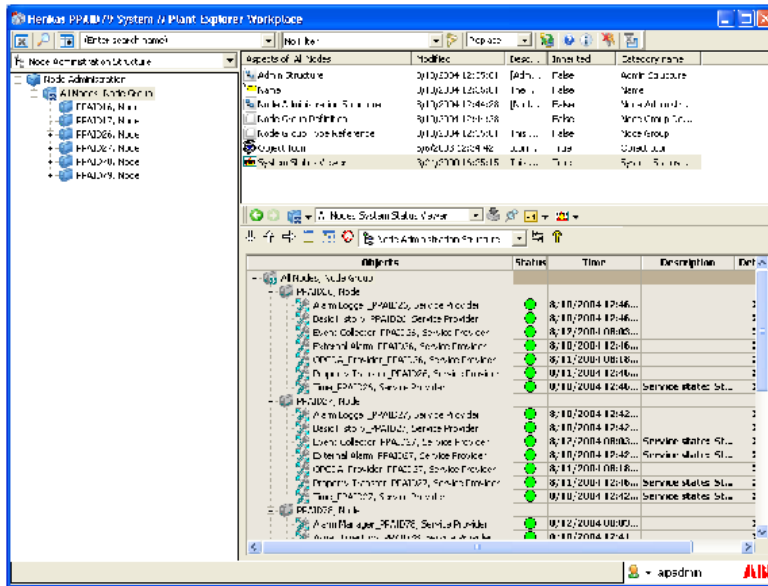

Figure 4. Verifying the System and Servers
- Use the Object Browser to select All Nodes, Node Group as shown in Figure 4.